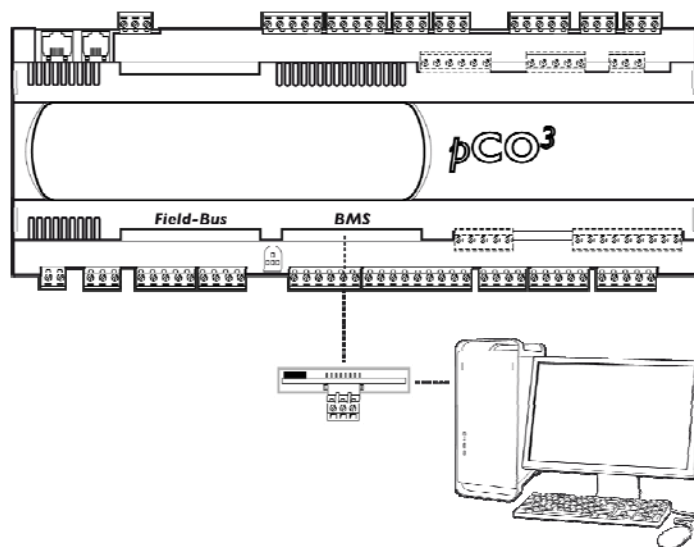

Fig. 8.a
- **Carel RS485:** part no. PCOS004850 (see Fig. 8.a)
- **Modbus RS485:** part no. PCOS004850 (see Fig. 8.a)